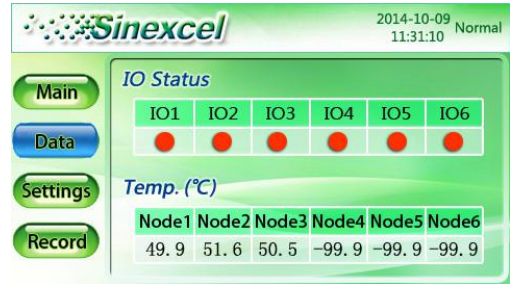

Figure 5-11 I/O status and node temperature
- ◆ Click “**IO/Temp.**” in Figure 5-5 to check IO status and node temperature, as shown in Figure 5-11.